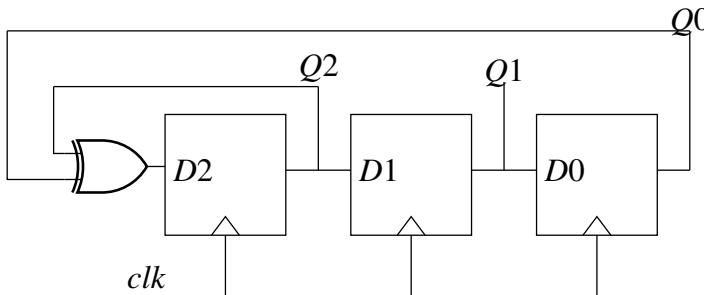

Fig. 5.4
4. In the circuit in Fig. 5.4, the clock(Clk) frequency provided to the circuit is 500MHz. Starting from the initial value of the flip-flop outputs $Q2Q1Q0 = 111$ with $D2 = 1$, find the time after which $Q2Q1Q0 = 100$. (GATE EC 2021)